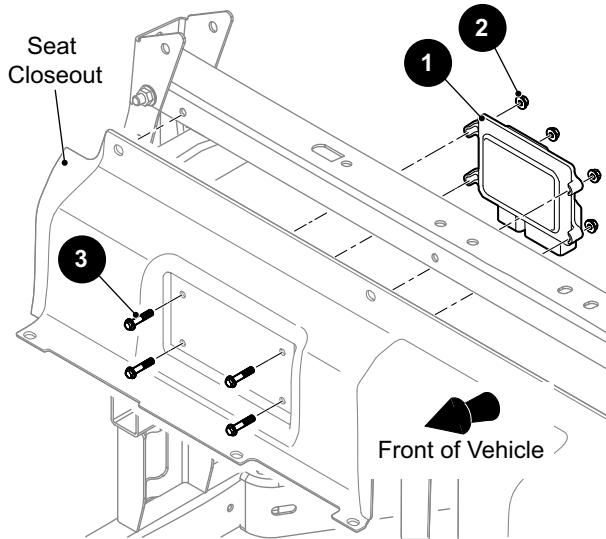

Fig. 6 Engine Control Unit (ECU)
1. Disconnect the harness from the bottom of the engine control unit (ECU) (1).
2. Remove the bolts (3) and nuts (2) that secure the ECU to the seat closeout panel (Ref. Fig. 6). Remove the ECU.